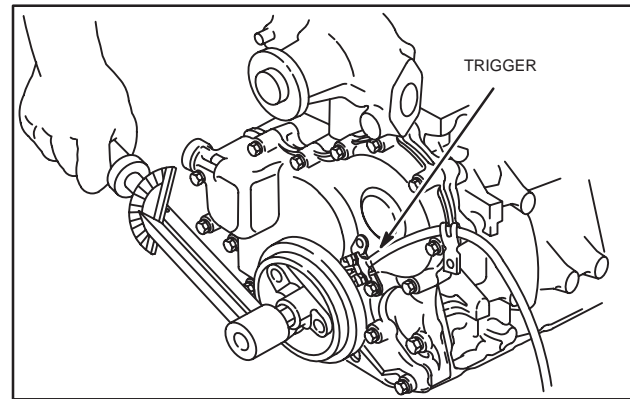

Fig. 22 – Installing Crankshaft Pulley
8. Install crankshaft pulley with timing mark at 12 o'clock position (#1 cylinder), Fig. 22.